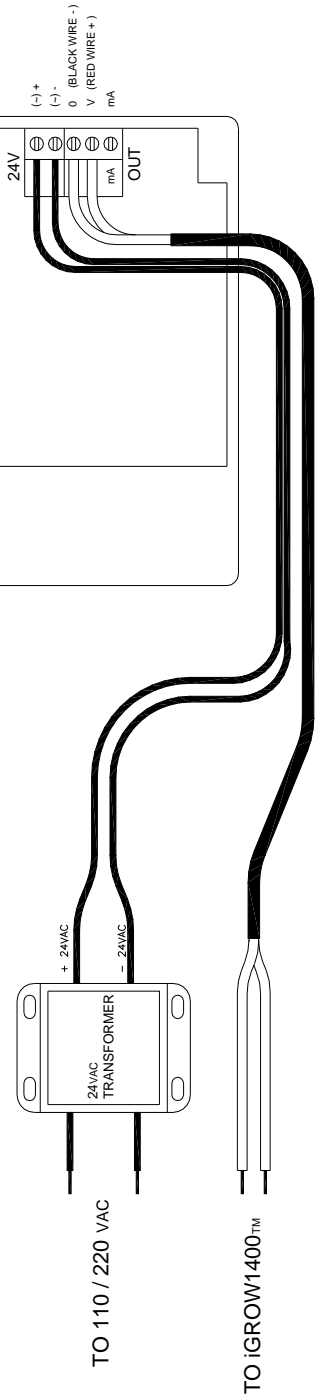

Figure 4.18 Wiring CO₂ Sensor
7. Connect the wires as shown in Figure 4.18.